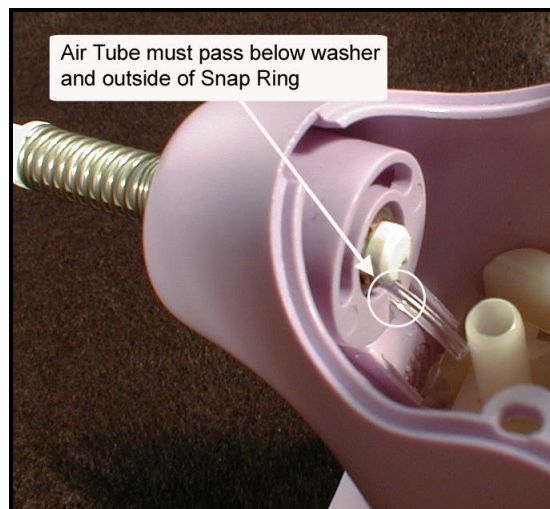

Figure 9 Air Tube Routing in housing
8. Put a bend on the end of a new Air Tube and insert into the end of the Extension Tube. Twist it while inserting to cause it to pass beneath the washer. See Figures 9 and 10.